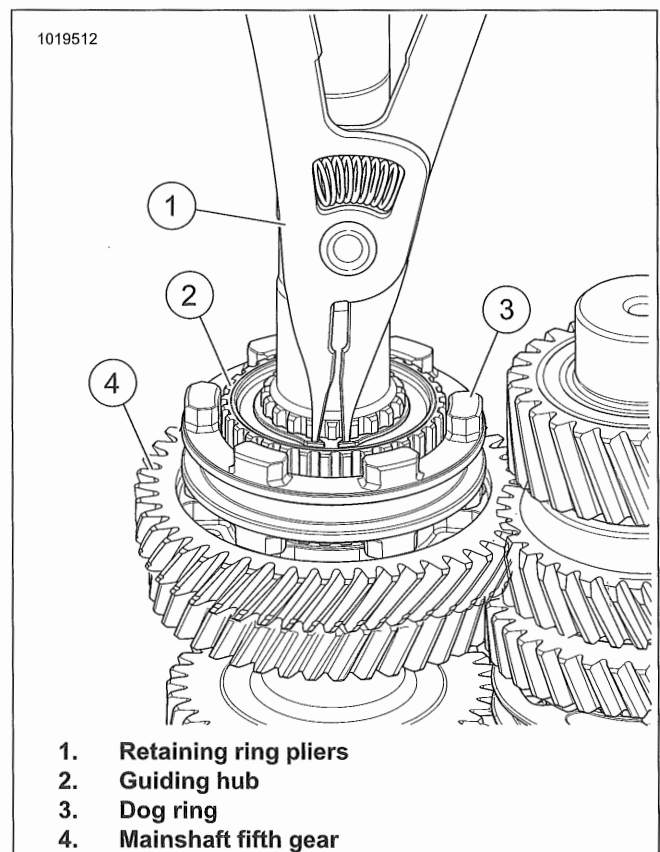

Figure 5-48. Mainshaft Fifth Gear
1. See Figure 5-48. Using 714 (OTC HORSESHOE LOCK RING PLIERS,), remove retaining ring.
2. Remove dog ring (3), guiding hub (2), mainshaft fifth gear (4) and bearing.